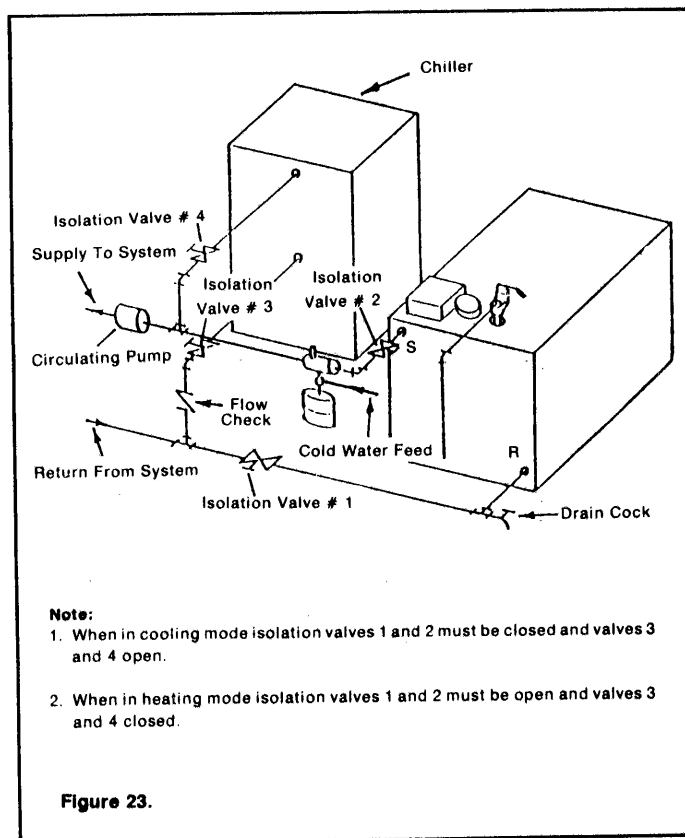

Figure 23.
8. COMBINATION HEATING/COOLING SYSTEM WITH CHILLED WATER — The chiller must be piped in parallel with the boiler and isolation valves installed to prevent the chilled water from circulating through the boiler and heated water from circulating through the chiller. See Figure 23.